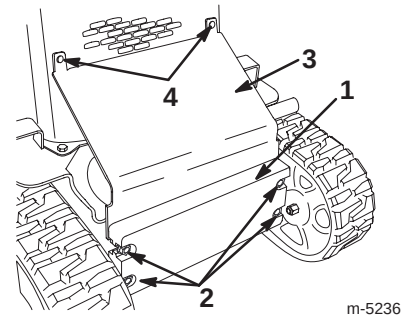

Figure 20
2. Loosen the bolts securing the front weight (Fig. 20).
3. Remove the carriage bolts and nuts securing the heat shield (Fig. 20).
- Slide the front screen between the frame and the front weight and secure it to the grill using the carriage bolts and nuts removed previously (Fig. 20).
- Tighten the bolts securing the front weight (Fig. 20).